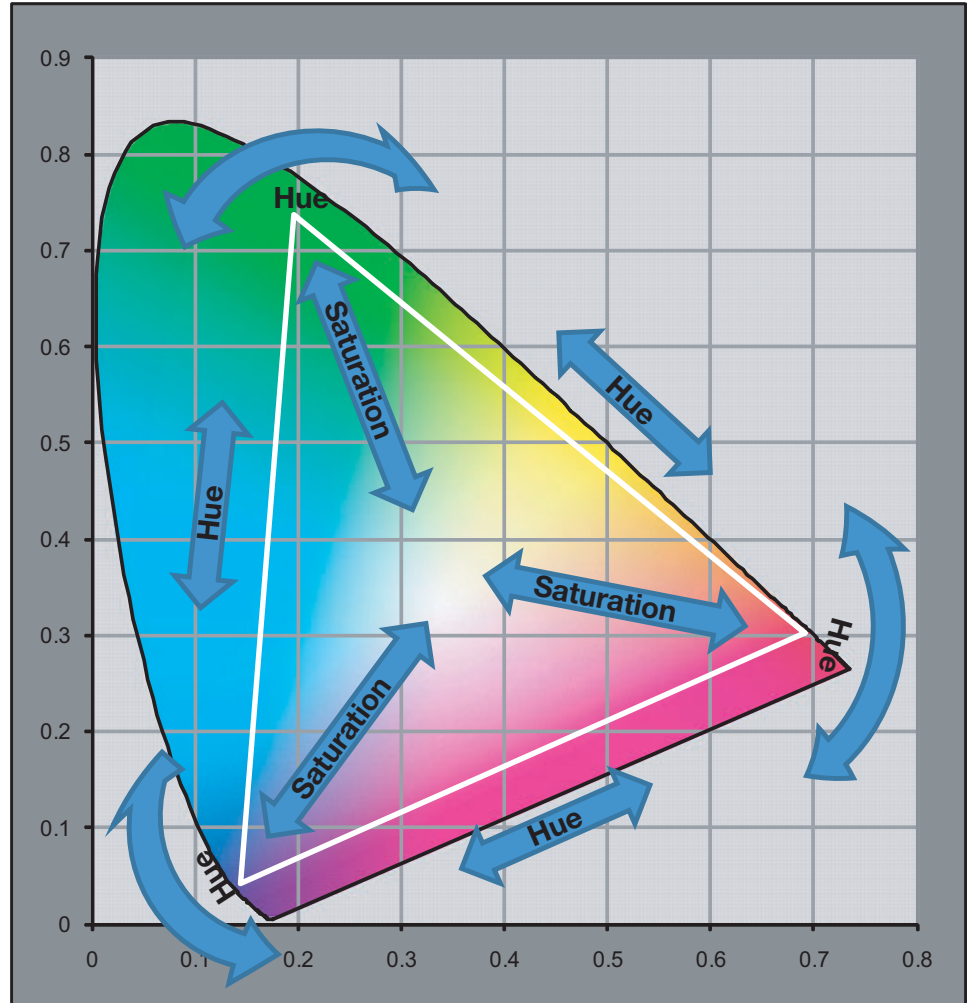

Figure 4-8. CIE 1931 Color Coordinate Diagram and Effect of PCE Hue and Saturation Controls
Each control operates only on the color specified. Surrounding colors are linearly interpolated based on their distance from each of these colors. In the CIE 1931 Yxy coordinate system (see Figure 4-8), Hue rotates the color coordinates around the white point, Saturation adjusts the coordinate's distance from white and Level adjusts the luminance (Y) of the color relative to white.